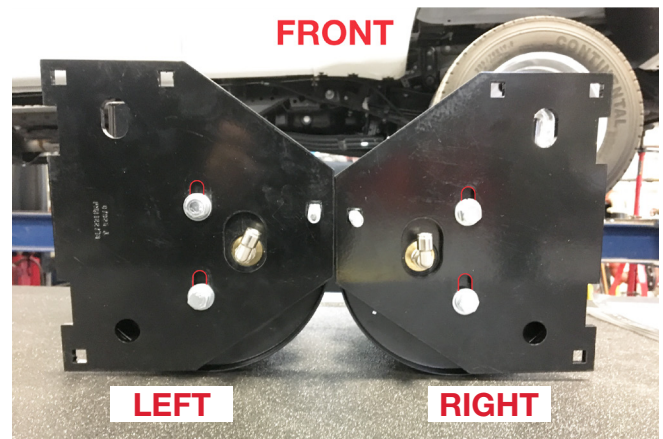

Fig. 8
2. Insert 3/8"-16 x 1 1/4" carriage bolts (M) into the square holes on the brackets, then secure the upper air spring bracket (E) onto the top of the air springs using 3/8"-24 x 7/8" hex bolts (W), 3/8" lock washers (X) and 3/8" flat washers (R). At this stage, the air spring assemblies are left- and right-hand units. Push the brackets as far forward as possible (Fig. 8). Torque the hardware to no more than 20 lb.-ft. (27Nm).